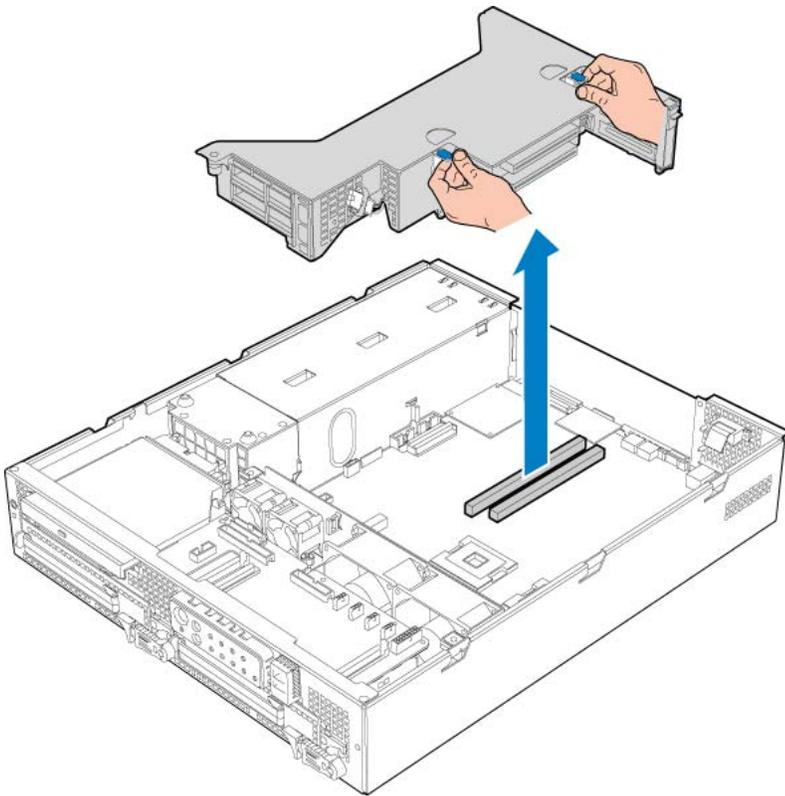

Figure 21: PCI riser card assembly
14. Hold the PCI riser assembly by the two blue handles (A) and push the assembly into the server board. Refer to Figure 21: PCI riser card assembly on page 81.